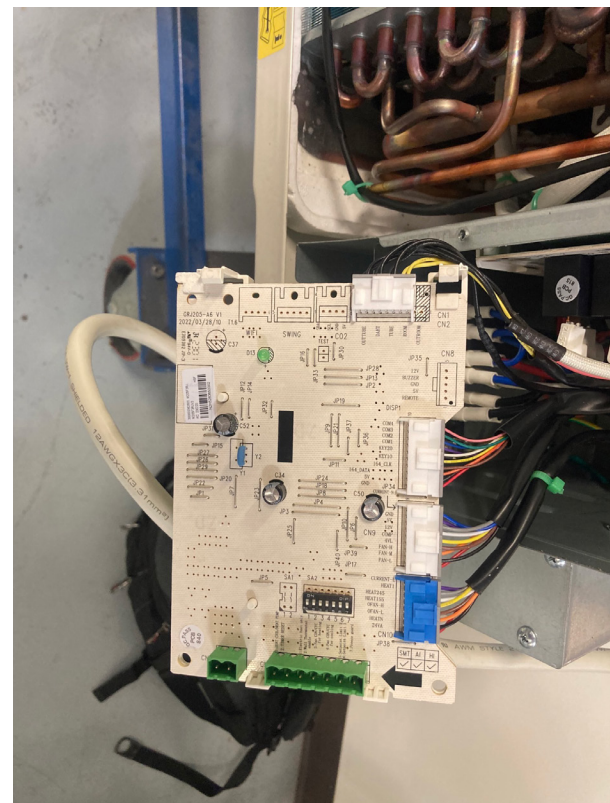

Figure 509
6. Unplug connectors. See Figure 509.